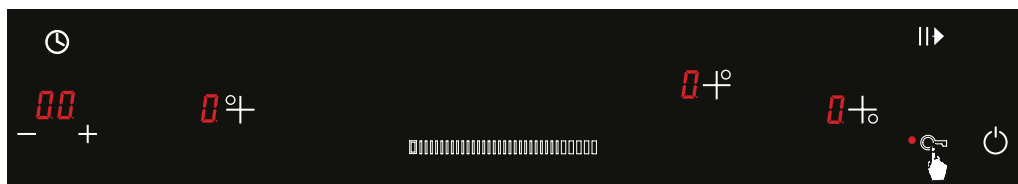

Figure 12
1. Child lock is activated by pressing the lock key () once to prevent undesired operations. (See Fig. 12) The dot (●) beside the lock symbol illuminates.